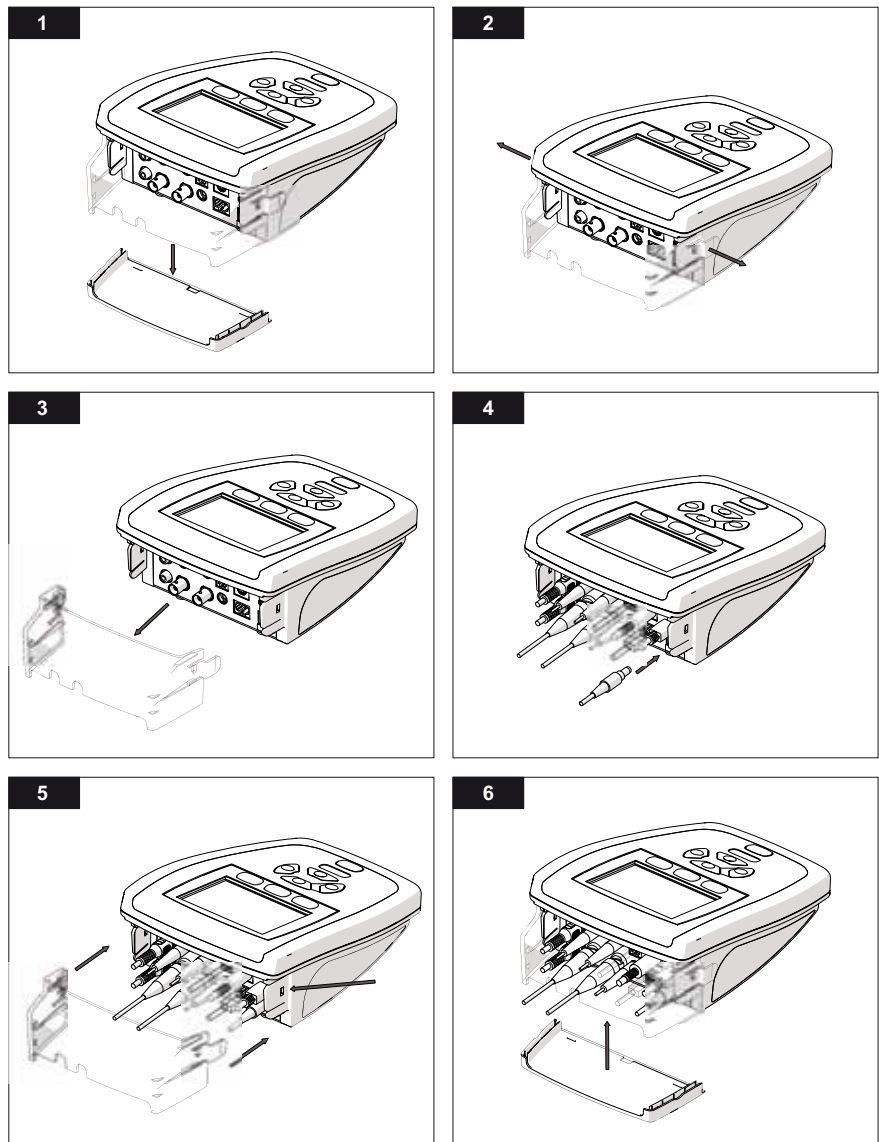

Figure 2 Connecting a probe
2. Connect the universal power adapter to the meter (Figure 2 on page 9).